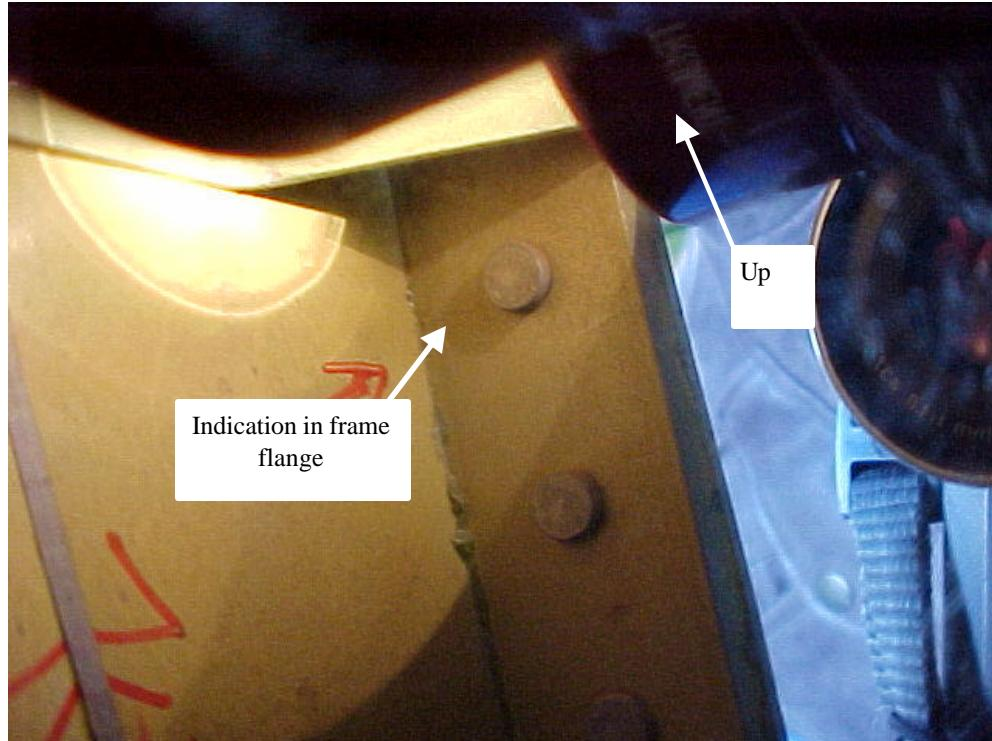

Figure F-5. Photograph documenting an indication on the reverse side of frame flange at FS 848.95 (aft side of aft door).
- FIGURE F-5 Photograph documenting an indication on the reverse side of frame flange at FS 848.95 (aft side of aft door). .....F-5